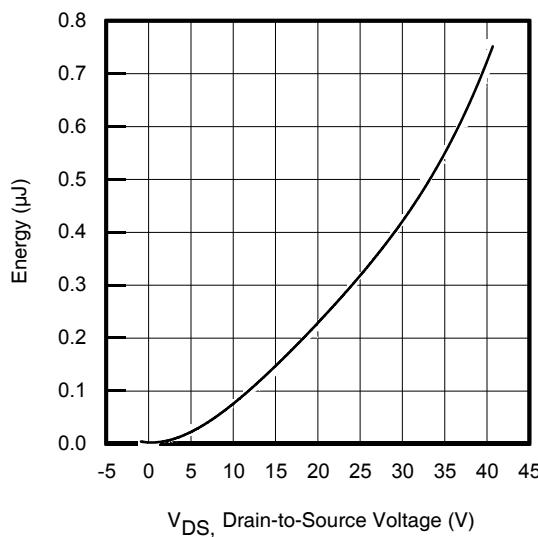

Fig. 11 Typical Coss Stored Energy
- ① Calculated continuous current based on maximum allowable junction temperature. Bond wire current limit is 100A by source bonding technology. Note that current limitations arising from heating of the device leads may occur with some lead mounting arrangements. (Refer to AN-1140)
- ② Repetitive rating; pulse width limited by max. junction temperature. (See fig. 11)
- ③ Limited by $T_{J,\text{max}}$, starting $T_J = 25^\circ\text{C}$, $L = 0.051\text{mH}$, $R_G = 50\Omega$, $I_{AS} = 90\text{A}$, $V_{GS} = 10V$. Part not recommended for use above this value.
- ④ $I_{SD} \leq 90\text{A}$, $di/dt \leq 1304\text{A}/\mu\text{s}$, $V_{DD} \leq V_{(\text{BR})\text{DSS}}$, $T_J \leq 175^\circ\text{C}$.
- ⑤ Pulse width $\leq 400\mu\text{s}$; duty cycle $\leq 2\%$.
- ⑥ $C_{oss \text{ eff. (TR)}}$ is a fixed capacitance that gives the same charging time as C_{oss} while V_{DS} is rising from 0 to 80% V_{DSS} .
- ⑦ $C_{oss \text{ eff. (ER)}}$ is a fixed capacitance that gives the same energy as C_{oss} while V_{DS} is rising from 0 to 80% V_{DSS} .
- ⑧ When mounted on 1" square PCB (FR-4 or G-10 Material). For recommended footprint and soldering techniques refer to application note #AN-994
- ⑨ R_θ is measured at T_J approximately 90°C .
- ⑩ Pulse drain current is limited by source bonding technology.